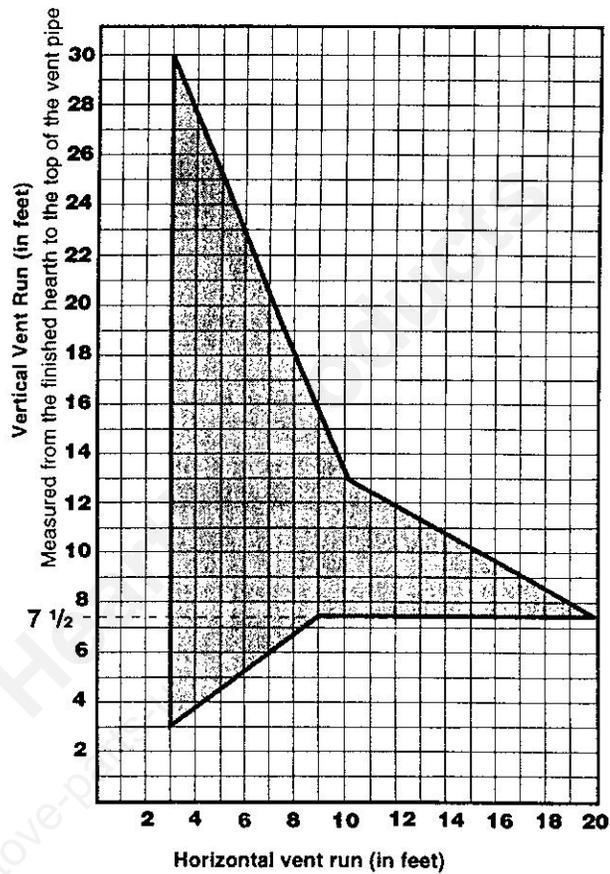

Figure 2-5. Vent window for horizontally-terminated installations that include a vertical rise.
- Any installation that does not terminate immediately behind the stove, must terminate within the shaded area in Figure 2-5 above. Example: If the horizontal run is 9 feet (274 cm), the termination must be at least 7 1/2 feet (229 cm) high.